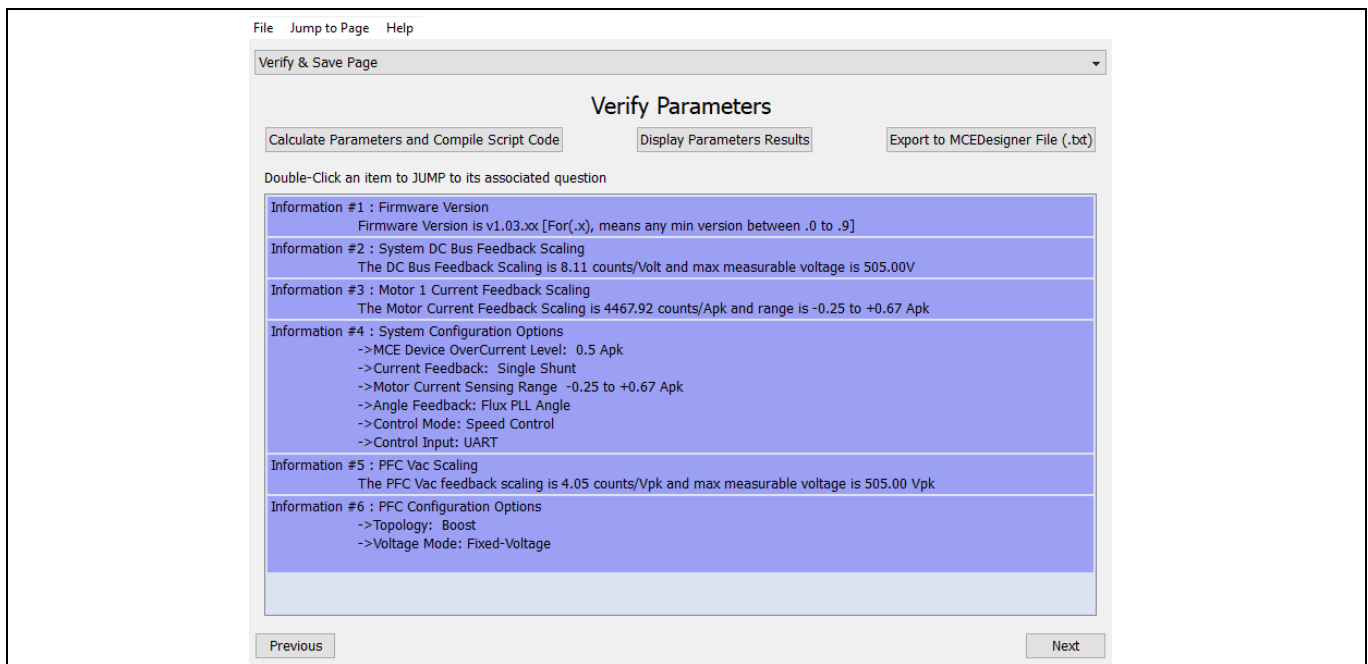
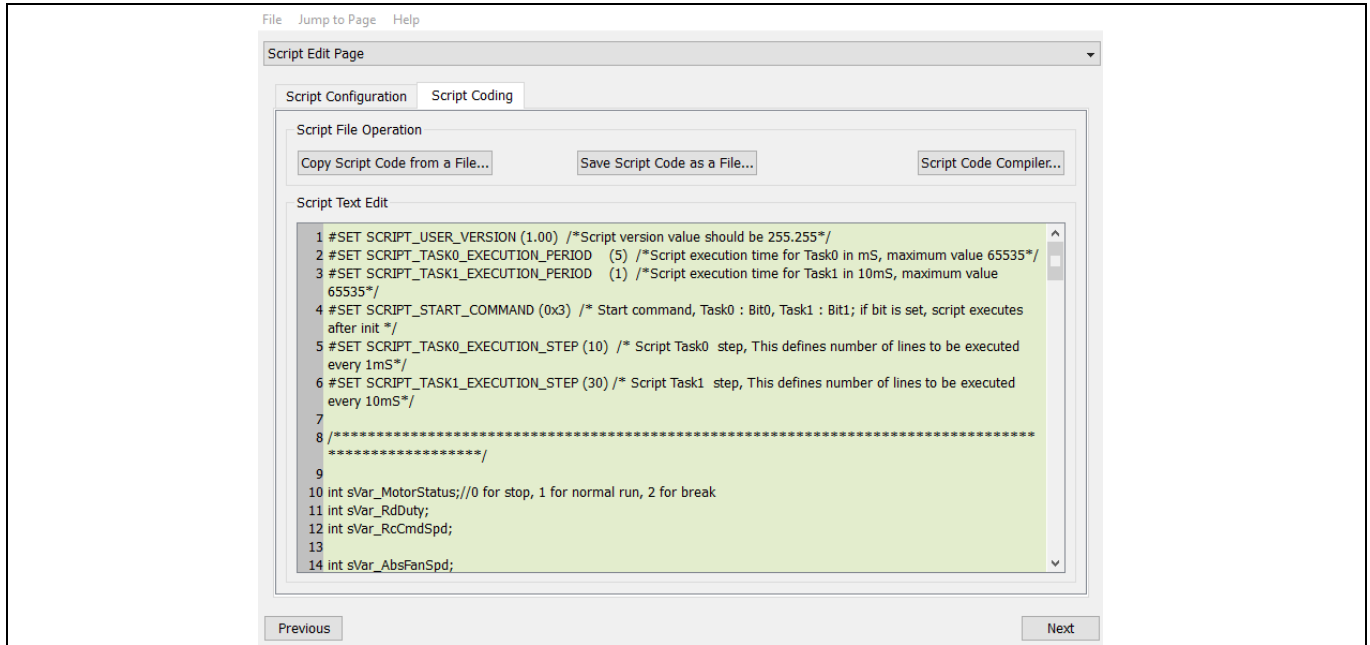
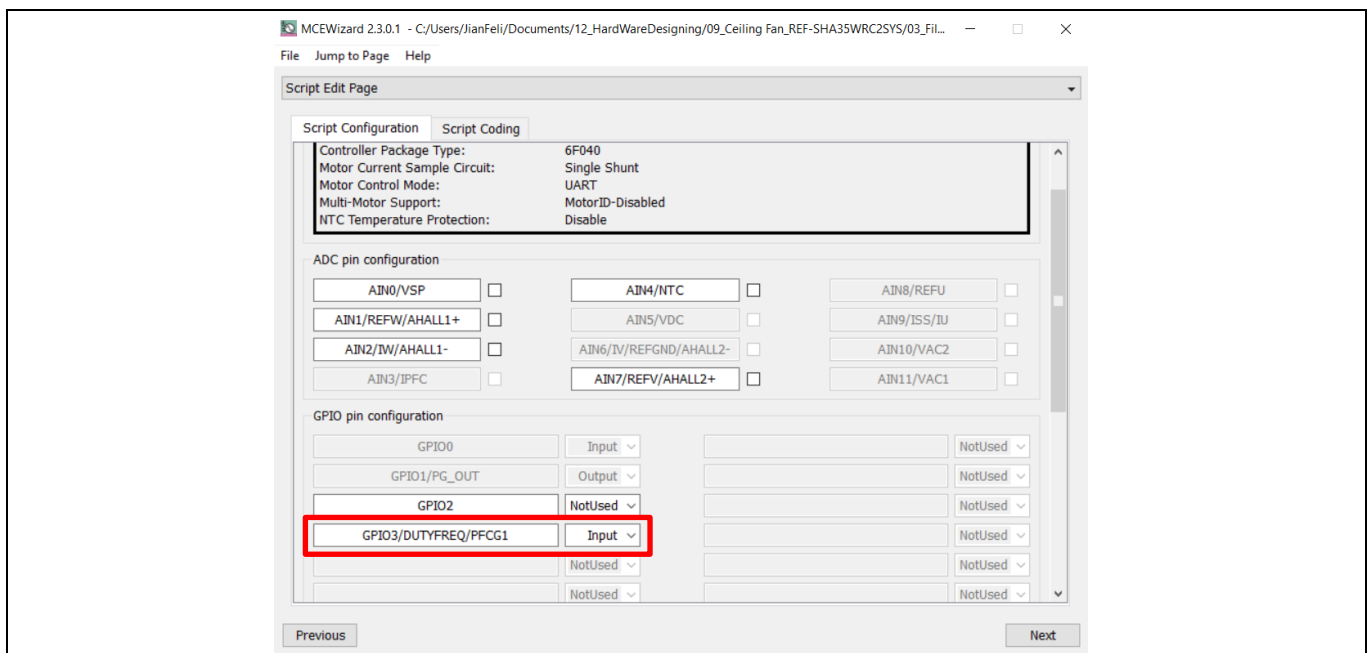

Figure 9 Verify and save page (script-enabled)
Figure 13 Script edit page
Figure 14 Pulse input pin definition for remote infrared control
- The script function is enabled by default in the provided MCEWizard file (.mc2). Click menu "Jump to page > Script" and click label "Script Coding", then you can edit the script code according to the properties of motor you used as shown in Figure 13. For more information regarding to script editing, please refer to the MCE reference manual^[6]. About how to change script to adapt customer motor, please refer to Section 2.4. Then click menu "Jump to page > Verify & Save Page", go to "Verify & Save Page" page and click on the "Calculate Parameters and Compile Script Code" key to calculate parameters and compile script code. If no errors are reported, then save the drive parameters set in your project directory by clicking "Export to Designer file (.txt)" as shown in Figure 9. If errors are detected, double-click on the error message (highlighted in RED) and adjust the related parameters. The saved drive system parameter file will later be used for programming.
3. Click menu “Jump to page > Option” and enable script function as shown in Figure 10. Copy the script code for remote infrared control in the Code Listing 1 to “Script Edit Page > Script Coding” in the MCEWizard as shown in Figure 13. For more information regarding to script editing, please refer to the MCE reference manual^[6]. About how to change script to adapt customer motor, please refer to Section 2.4. Then define pulse input pin for remote infrared control as shown in Figure 14, and please define the pin “GPIO13/DUTYFREQ/PFCG1” as input for this reference board. Then click menu “Jump to page > Verify & Save Page”, go to “Verify & Save Page” page and click on the “Calculate Parameters and Compile Script Code” key to calculate parameters and compile script code. If no errors are reported, then save the drive parameters set in your project directory by clicking “Export to Designer file (.txt)” as shown in Figure 9. If errors are detected, double-click on the error message (highlighted in RED) and adjust the related parameters. The saved drive system parameter file will later be used for programming.
- Once the firmware has been programmed, and only a new parameter file has to be programmed, follow the same instructions given in Section Figure 14. In this case, the firmware programming is no longer needed, and you can select the first option “Program Parameters.”